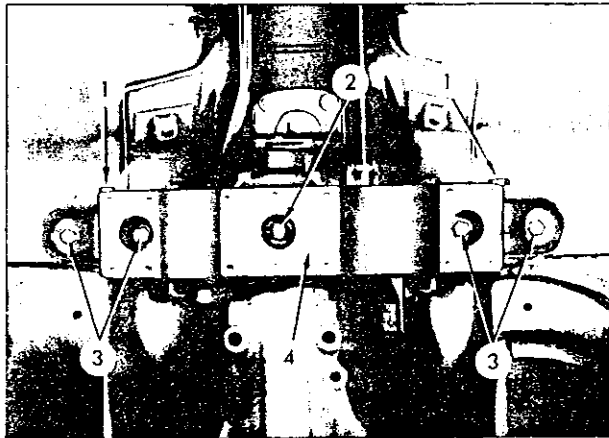

Fig. RA-16 Removing the differential mount front member
6. Loosen the transverse link inner bolt ① (for both front and rear). (Figure RA-16)
7. Remove the differential mount front insulator installation nut ②. (Figure RA-16)